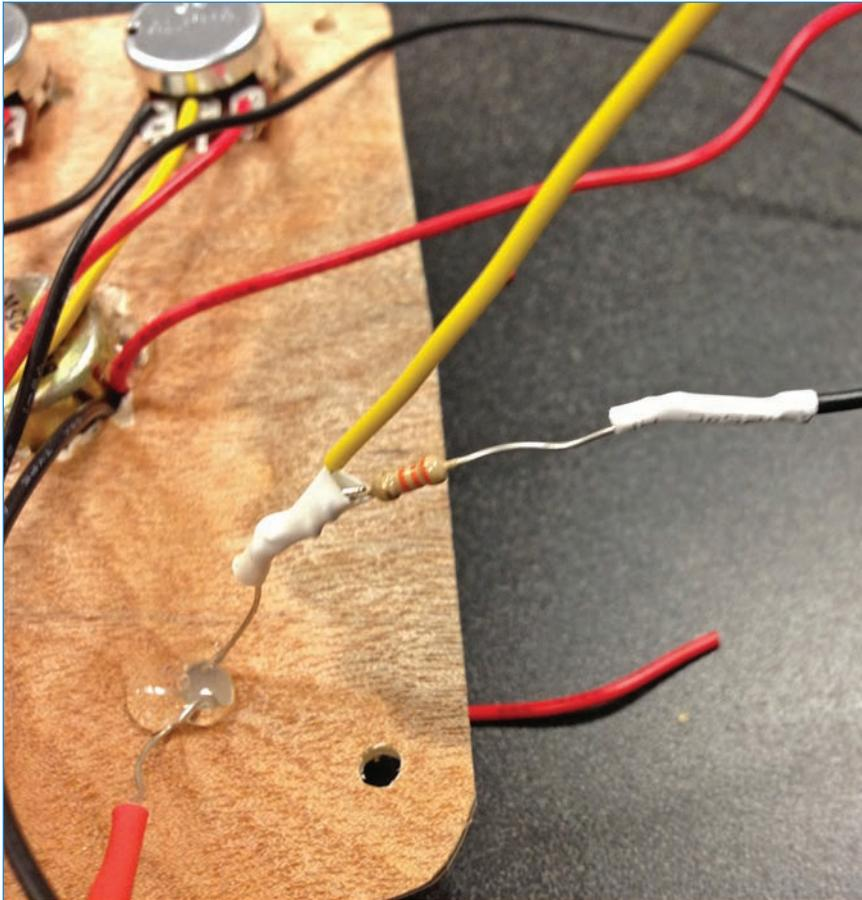

FIGURE 10.17 The ground wire of the photo resistor gets a resistor.
8. Wire up a 3.3K-ohm resistor to the light sensor's ground wire, then solder in a yellow wire for data. The tail end of the resistor should have a black wire soldered onto it, and this becomes the ground. You can see this in Figure 10.17. It gets plugged into a GND pin of the Arduino.